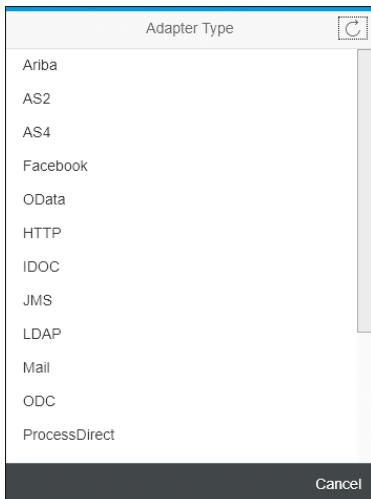

Figure 2.30 Adapter Type Dialog
3. After releasing the mouse button, the **Adapter Type** dialog box will appear, which allows you to select the connection type you desire (Figure 2.30).